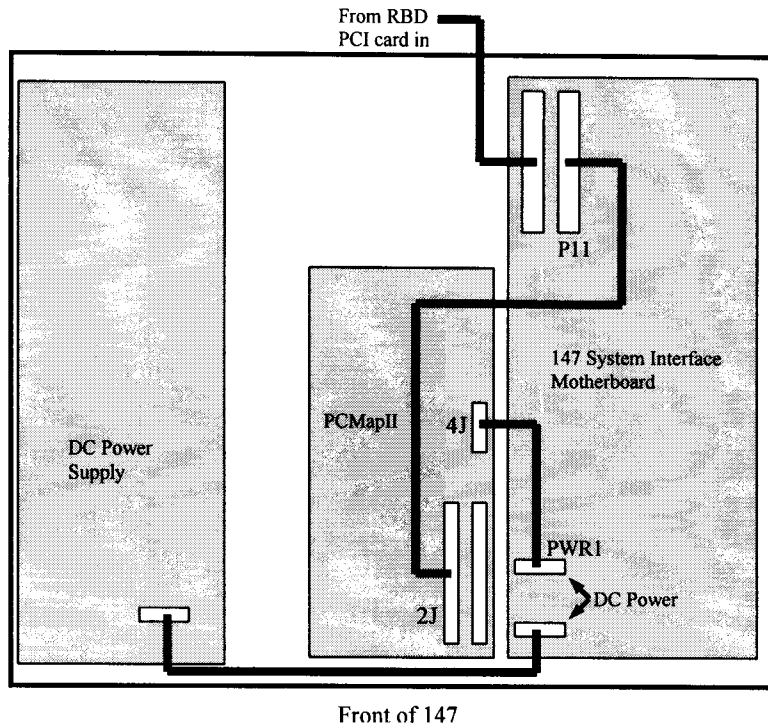

Figure 2.1
1. Place the PCMapII card into the 147 chassis between the power supply and the 147 motherboard. The (2) 64 pin connectors (1J, 2J) go towards the front of the chassis, see Figure 2.1.